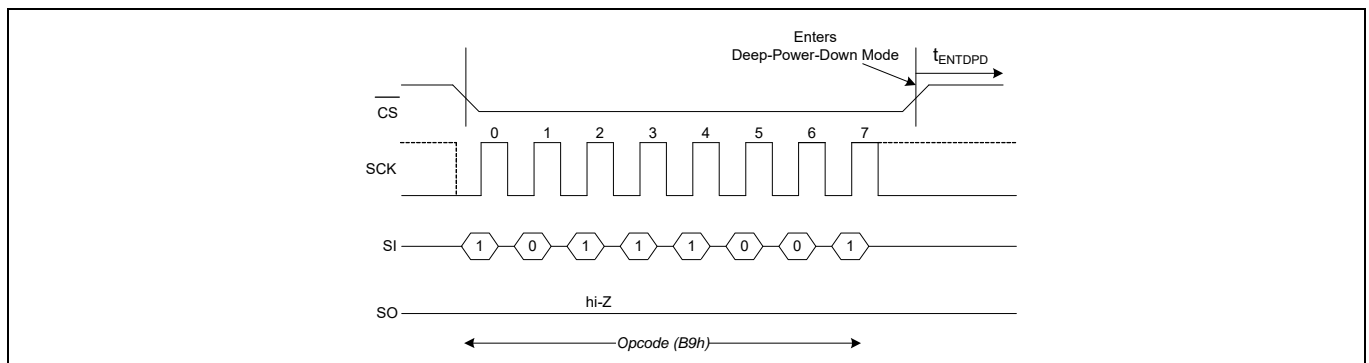
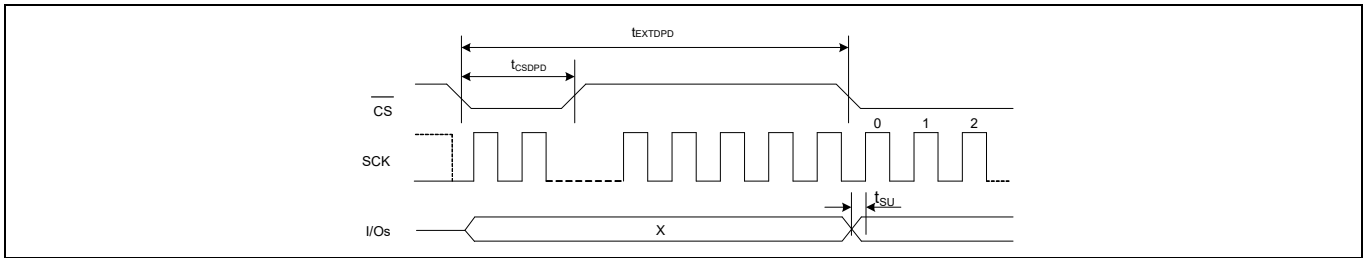

Figure 99 DPD entry in SPI mode
Figure 102 DPD exit in SPI mode
A \overline{CS} pulse-width of t_{CSDPD} or hardware reset exits the DPD mode after t_{EXTDPD} time. The \overline{CS} pulse-width can be generated either by sending a dummy command cycle or toggling \overline{CS} alone while SCK and I/Os are don't care. The I/Os remain in hi-Z state during the wakeup from deep power down. Refer to **Figure 99** for DPD entry and **Figure 102** for DPD exit timing.
- The timing details shown in **Figure 99** are applicable as is in DPI and QPI modes.